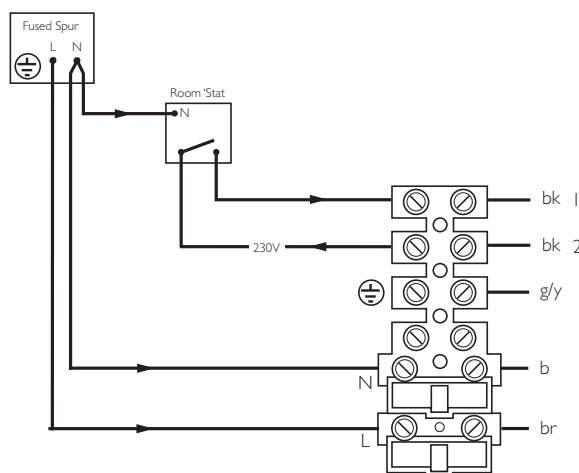

Fig. 32
6. Remove the link between terminals 1 & 2. The 230V supply at terminal 2 must be connected to the thermostat. The switched output from the thermostat must be connected to terminal 1. (Figs. 32 & 33). If the room thermostat being used incorporates an anticipator it **MUST** be wired as shown in Figs. 32 & 33.